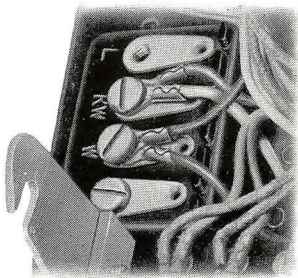

Fig. 5—Auxiliary Terminal Block (P-16A368)
3.05 **511A/B:** This set is intended for use in 1A key telephone systems. It is equipped with a turn-push button key for 2-line pickup and signaling, and an exclusion switch. It has a 10-conductor mounting cord and replaces 410CA- and CC-, 411AA-, AC-, CA-, and CC-types of telephone sets. It also has an auxiliary terminal block shown in Fig. 5.